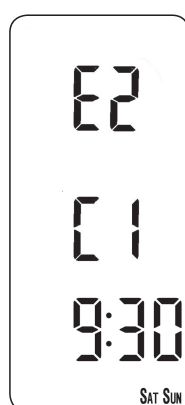

Fig. 26
- c) Press the **PROG** button to move to the next preset time (Event 2) (**Fig. 26**).